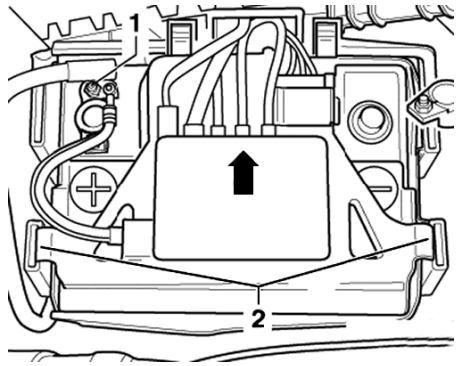

Fig. 11 Clipped fuse holder removal
7. Remove bolt (1) on positive terminal clamp, **Fig. 11**.
8. Lift fuse holder out of mounting (2), and slide fuse box out from mounting in direction of (arrow), **Fig. 11**.